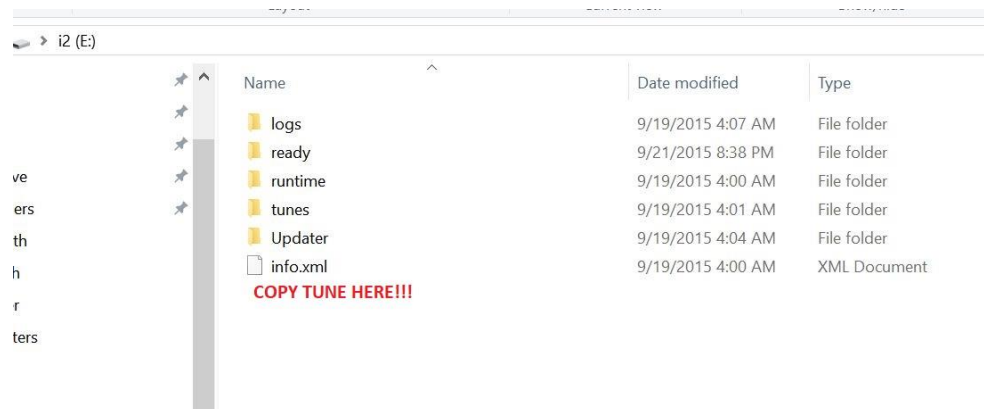

Figure 1
- c. **Installing a CMR tune into your *InTUNE or T2*** .Simply COPY/PASTE your custom tune into the InTune drive's root directory (shown in figure 1). **NOT THE TUNES FOLDER!** The InTune will automatically confirm that the tune was uploaded.